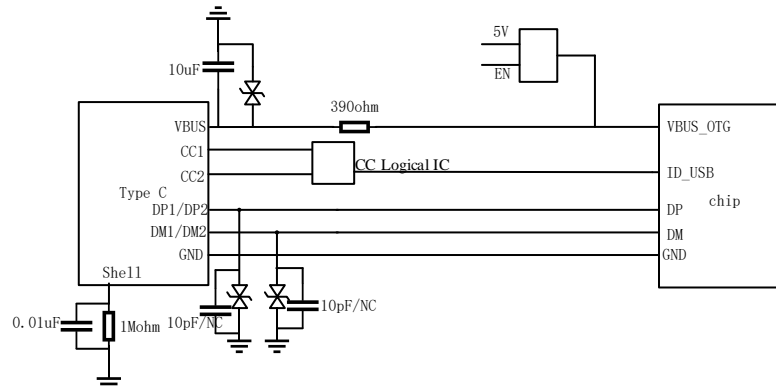

Figure 11-9 OTG mode with Type C interface
- The power switching module to control VBUS is necessary. It is self-powered in host mode and external-powered in device mode. As is shown in Figure 11-9, if EN is low voltage, the chip acts as a USB device, VBUS is disconnected with 5V on chip. If EN is high, the chip acts as a USB host, VBUS outputs 5V and supplies external devices.